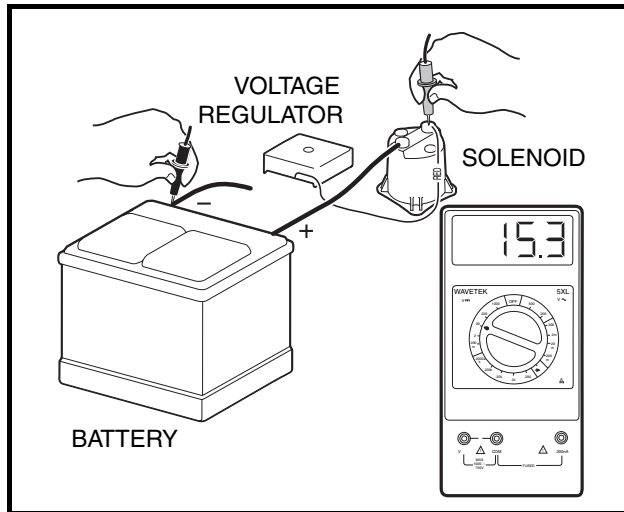

Figure 11-22 Test Voltage Regulator
5. Turn the key switch to the OFF position, killing the engine. Using a multimeter set to 20 volts DC, place the red (+) probe on the large post of the solenoid with the red wire from the voltage regulator attached. Place the black (–) probe on the negative (–) battery post (**Figure 11-22, Page 11-23**). With the Forward/Reverse handle in the NEUTRAL position and the wheels chocked, turn the key switch to the START position to start the engine. Press the accelerator to run the engine at full governed speed. If the reading is between 14.7 and 15.3 volts, the regulator is good. If the reading is lower than 14.7 volts but rising steadily, check battery condition. **See Hydrometer Test on page 11-11.** If the reading is lower than 14.7 volts and not rising, and the starter/generator is good; or if the reading is over 15.3 volts and continues to rise, replace voltage regulator. **See Voltage Regulator Removal, Section 12, Page 12-11.**